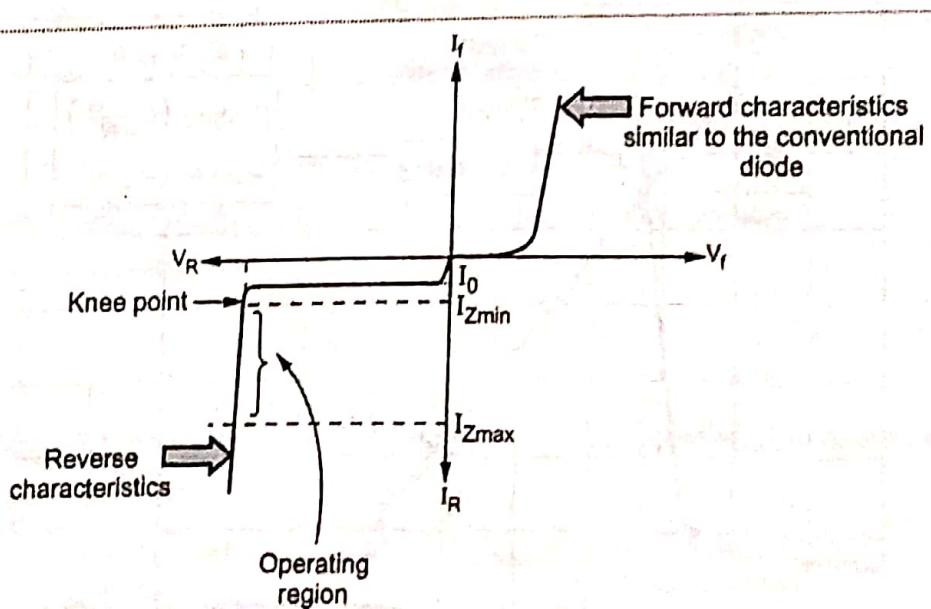

Fig. Q.22.2 V-I Characteristics of zener diode
- The V-I characteristics of zener diode is shown in the Fig. Q.22.2.